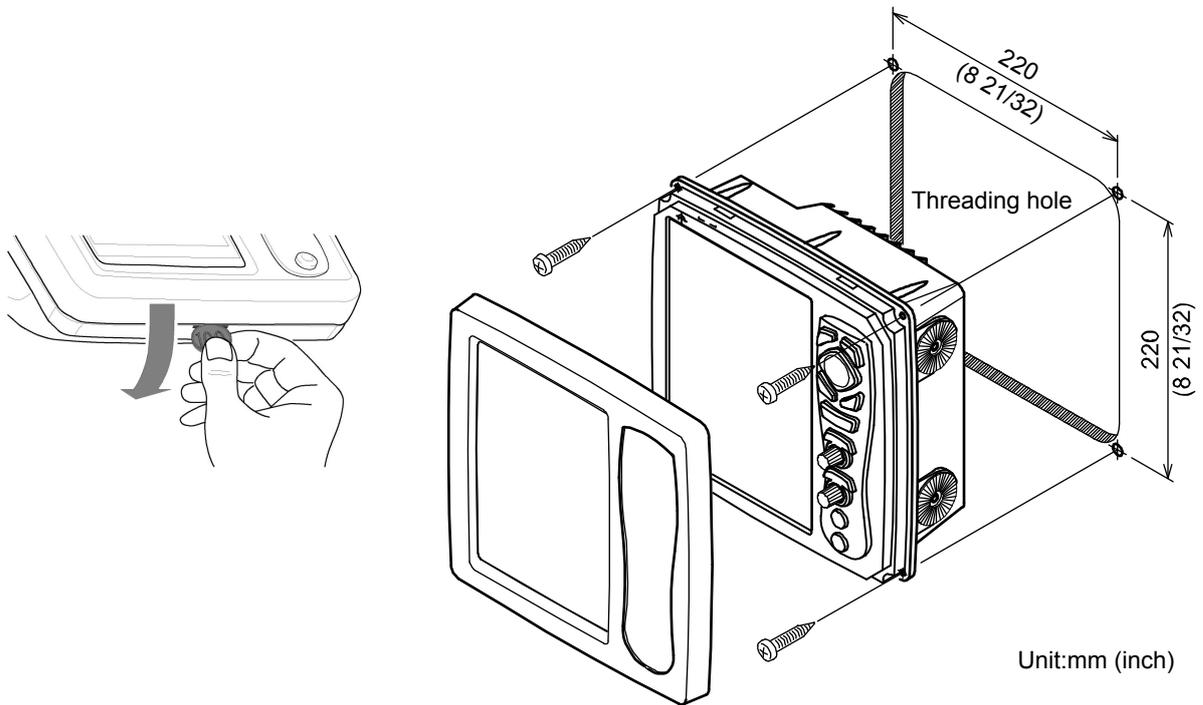
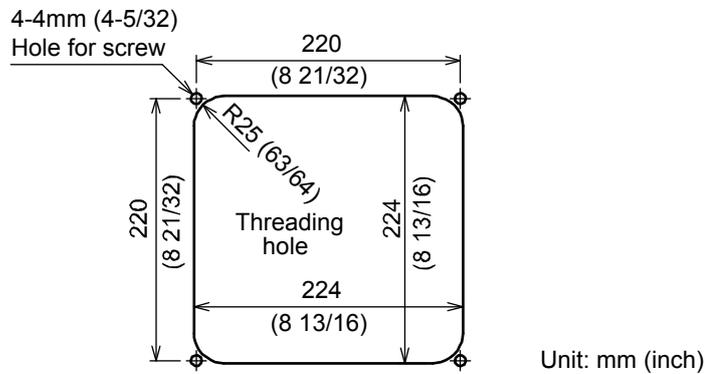

Fig. 5.4 Flush-mount Installation
Fig. 5.5 Work of flush-mount installation hole
- (1) Make a square hole (220mm x 220mm) at the location to be installed. (See Fig. 5.5.)
- (2) Turn counter-clockwise the knob bolt fixing the display unit to the mounting bracket to loosen it, push the unit to the left side and pull the unit upward. The mounting bracket and knob bolt are no longer used.
- (3) Confirm that the unit matches with the square holes. If not matched, correct the square hole.
- (4) Remove the front frame of the display unit, pulling it toward you. (See Fig. 5.4.)
- (5) Connect the connectors for power and transducer to the unit respectively.
- (6) Install the display unit in the installing location (square hole) and fix it with four tapping screws (4mm) (M4 or pan-head). (Prepare 4mm screws suitable for thickness of installing location.)
- (7) Install the front frame removed in step (4).